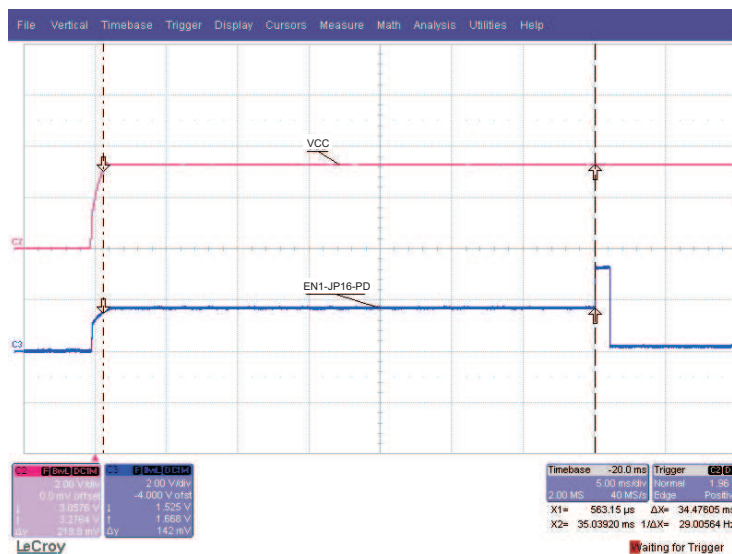

Figure 3. Power-Up Delay, no Parameter Change
- Normal case: The UCD9081 performs a checksum test on the contents of the user parameter section. If the test passes, then the UCD9081 compares the contents of the user parameters section to the contents of the application (or last-known-good configuration) parameters section to see if the parameters have changed. If the two areas match, then the sequencer application starts. This nominally takes 35 ms as shown in Figure 3